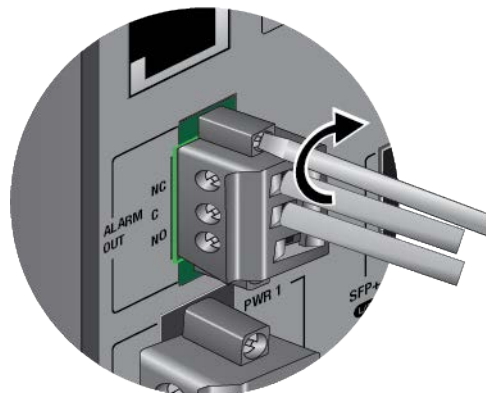

Figure 46. Securing the Alarm Connector to the Switch
9. Tighten the two captive screws to secure the Alarm Out plug to the switch. Refer to Figure 46.